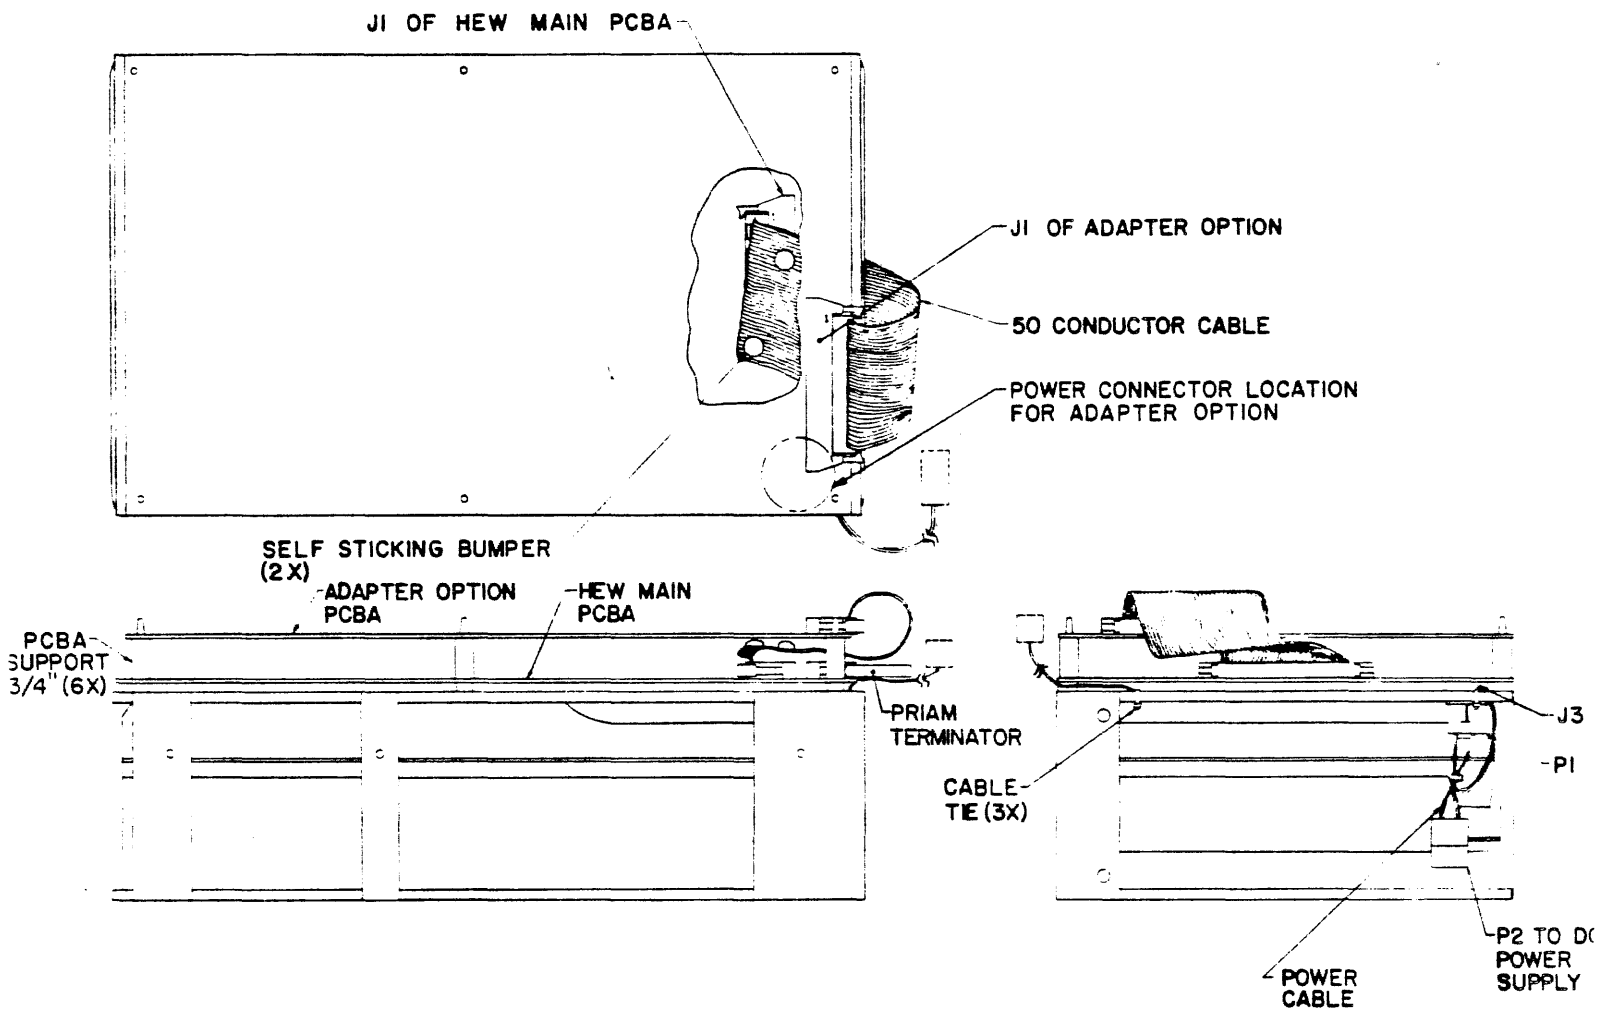

FIGURE 4 - SMART/SMART E INSTALLATION
- NOTE: The following explanation will reference Figure 4.
- 5. Secure HEW MAIN PCBA to the frame using six 3/4" PCBA supports, P/N 101322. Refer to Figure 4.
- 11. Fold and route loose end of 50 pin flat cable from J1 of the HEW MAIN PCBA to J1 of SMART or SMART-E PCBA and insure that Pin 1 of J1 connects to Pin 1 of flat cable. Refer to Figure 4. Locate the (2) rubber bumpers approximately as shown on folded cable.
- 12. Mount the SMART or SMART-E onto 3/4" PCBA supports. Press firmly until the supports come through mounting holes and lock. Orientation of the SMART or SMART-E PCBA should be as shown in Figure 4, with J1 of the SMART or SMART-E over J1 of the HEW MAIN PCBA.
- 14. Remove current power cable and insert it into the corresponding connector P2 of P/N 330421-02. Refer to Figure 4. Connect other end of power cable, P/N 330421-02, to J3 of HEW MAIN PCBA.
- 15. Route and secure the power cable, using tie wraps, as shown in Figure 4.